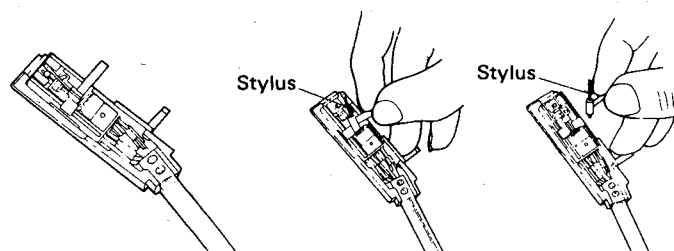

Fig. 26 REPLACING STYLUS
2. Gently remove Stylus and place new Stylus in to correct position as shown Fig. 26.